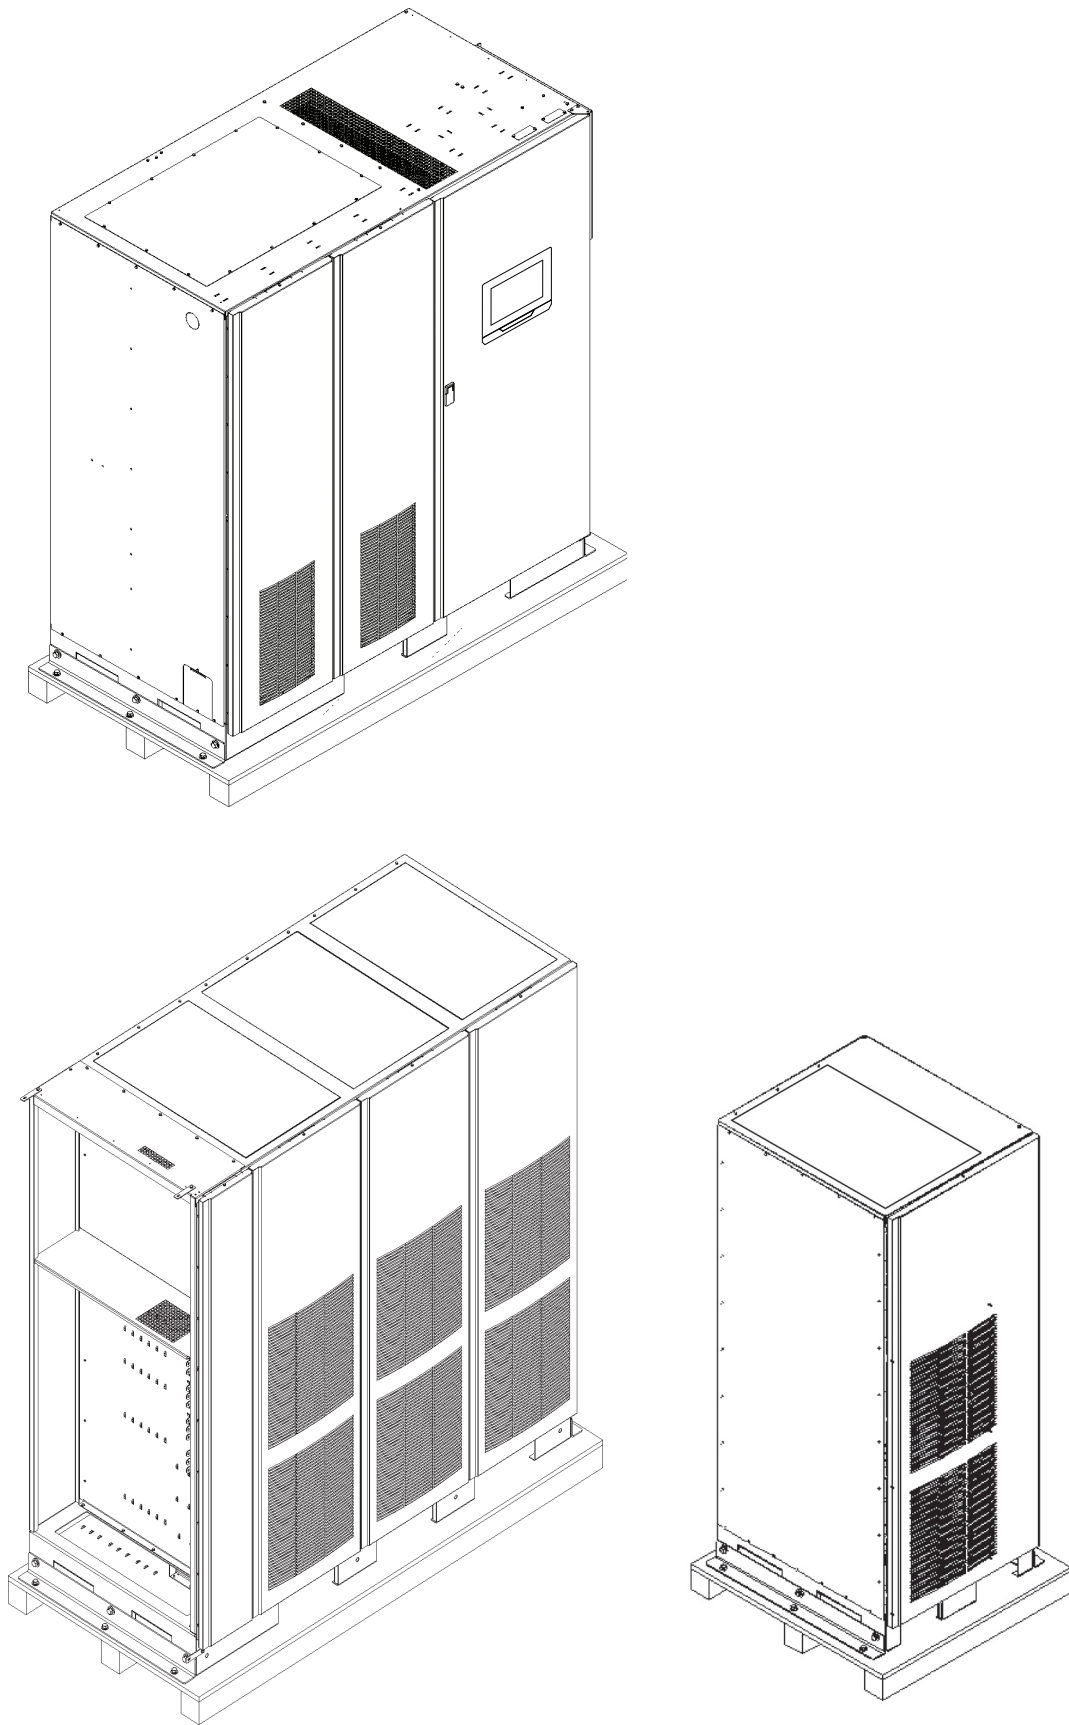

Figure 3-16. Eaton 9395P UPS cabinet as shipped on pallet - ISBM section, UPM section and FI UPM section
The UPS cabinet is divided into two sections (750 kVA) or three sections (1200 kVA) which are palletted separately for shipping. The cabinet is shipped bolted to a wooden pallet and protected with outer protective packaging material (see Figure 3-16).
2. Use a forklift or pallet jack to move the packaged cabinets to the installation site, or as close as possible, before unpacking. Insert the forklift or pallet jack forks from the right side of the cabinet, between the supports on the bottom of the pallet (see Figure 3-6 on page 21 and Figure 3-16 on page 30 for the location of the UPS center of gravity). If the cabinets must be moved using the cabinet front or rear fork lift slots, see the caution statement at the beginning of this procedure.